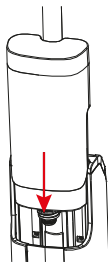

Fig. 2
3. Turn over the clean water tank, insert it into the main body along with the clean water tank slot until you hear a click. **(Fig. 2)**